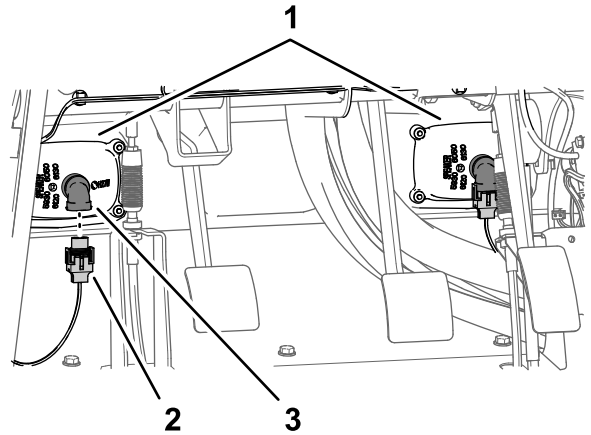

Figure 12
1. Disconnect the 2 electrical connectors (2-socket) of the machine wire harness from the 2-pin connectors of the left and right headlights (Figure 12).